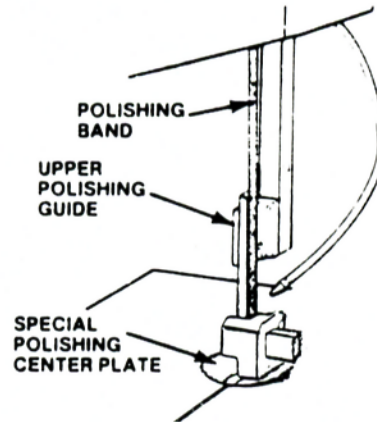

FIG. 53. BAND POLISHING OPERATION.
- (3) Install lower adapter to lower saw guide keeper block.
- (4) Lower post to approximately 4 inches (100 mm) above table.
- (5) Mount and track polishing band in same manner as file bands.
- (6) Tension same as a 1/16-inch (1.5 mm) wide carbon saw band.
- (7) Install special table center adapter plate.
- (8) Occasionally rub graphite powder into guide fabric to lubricate and increase band life. Use air nozzle to blow dust away. See Fig. 53.